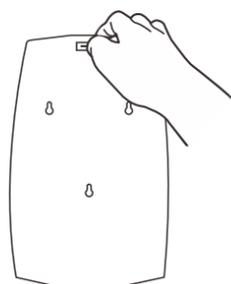

Fig1
- 1) Before mounting the dispenser on wall, press the lock spring on top of back plate (Fig1)